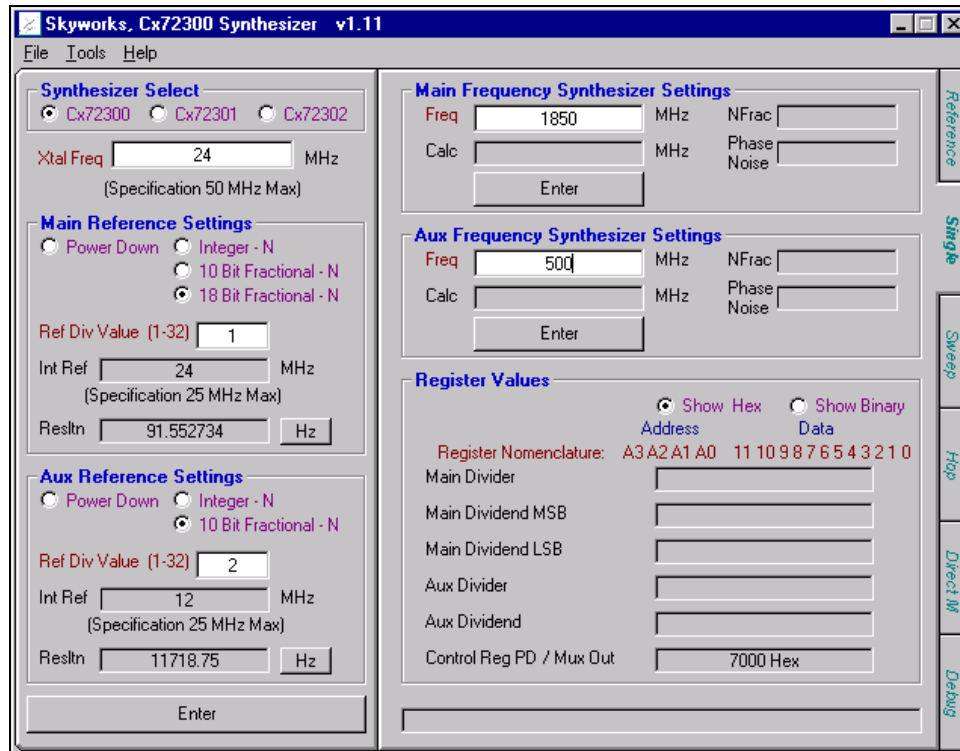

Figure 2. Software Interface Window: Single Tab
1. Click the **Single** tab of the software interface window (see Figure 2).